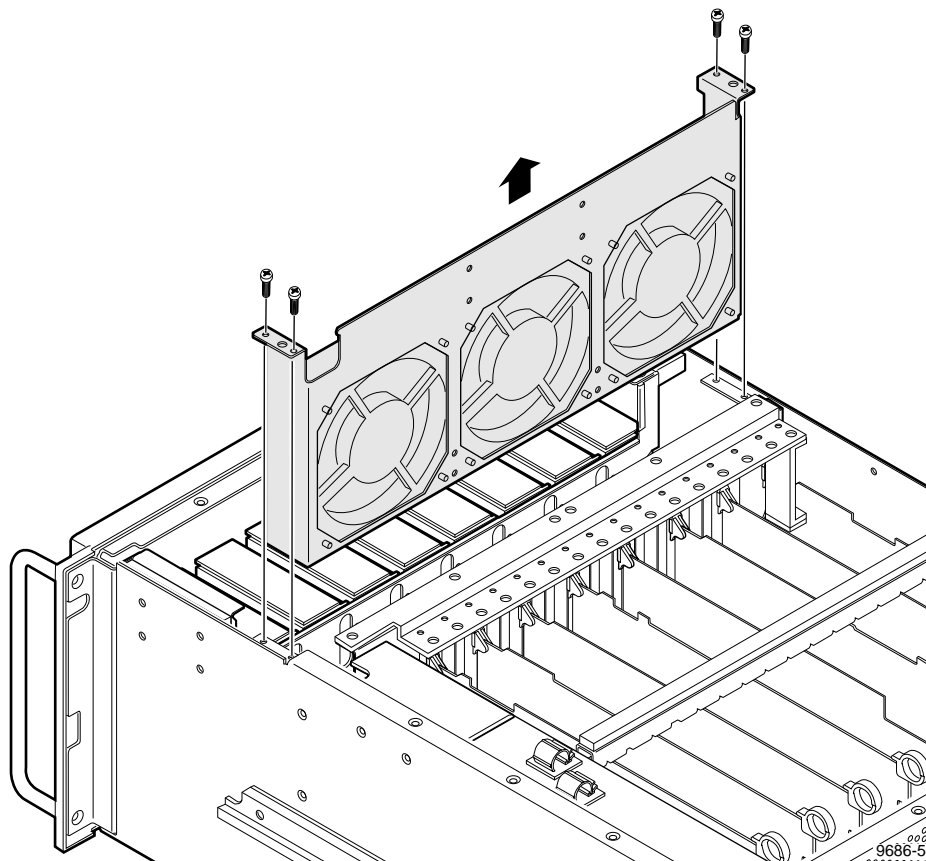

Figure 10. Removing the fan tray
3. Use the Torx tool with the T15 tip to remove the four screws mounting the fan tray to the chassis. See Figure 10.